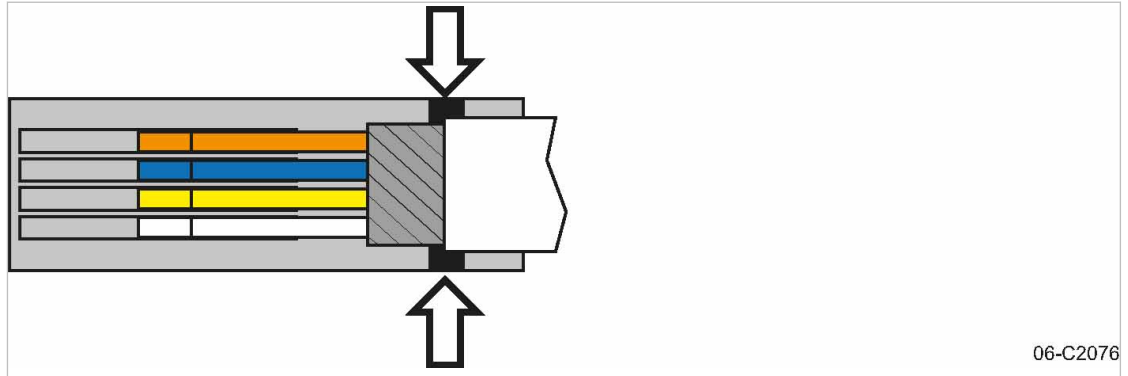

Fig. 16 Positioning the network cable
4. Position the network cable as shown (arrows, see Fig. 16).